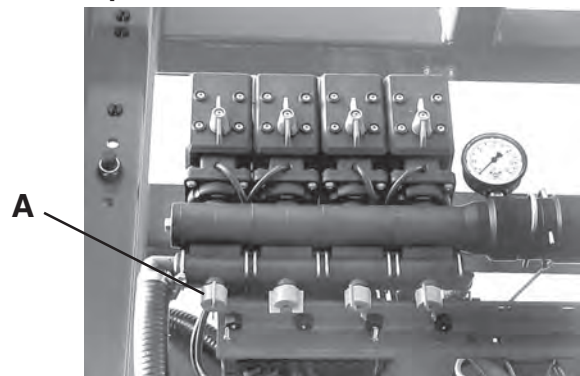

Fig 16
- 2 Turn the first section adjusting screw (A Fig 16) until the pressure gauge shows the same pressure again.